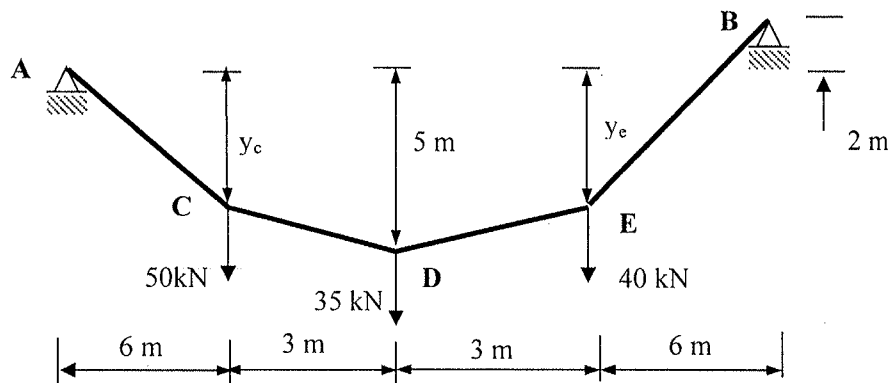

Figure Q2
- (ii) A cable of a uniform cross section is used to hang three concentrated loads as shown in Figure Q2.